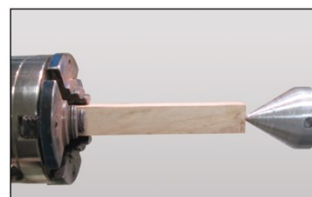

Figure 7
1. Mount a 3/4" x 3/4" x 5" blank in a chuck and a live center. (fig.7)